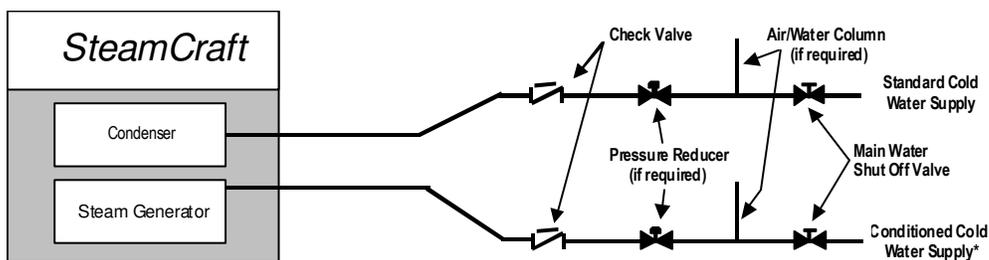

Figure 3-3 Cleveland Range Separate Water Supply Arrangement
- e. If the water supply fails to meet the requirements shown in the Warranty then use the Separate Water Supply Arrangement shown in Figure 3-3.